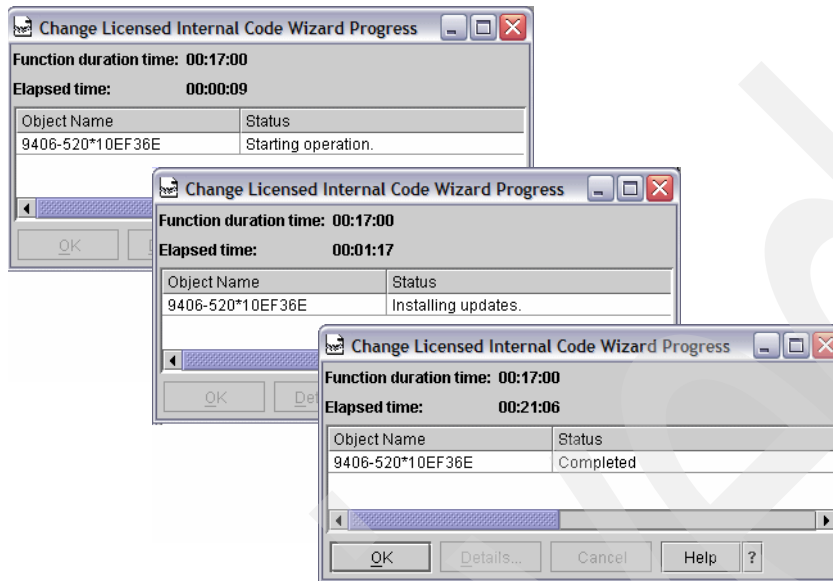

Figure 14-42 Change LIC Wizard - Starting Change LIC Wizard - status window
12. The Change Licensed Internal Code Wizard Progress window appears (Figure 14-42). When you install server firmware updates on the t-side, the existing contents of the t-side are permanently installed on the p-side first.